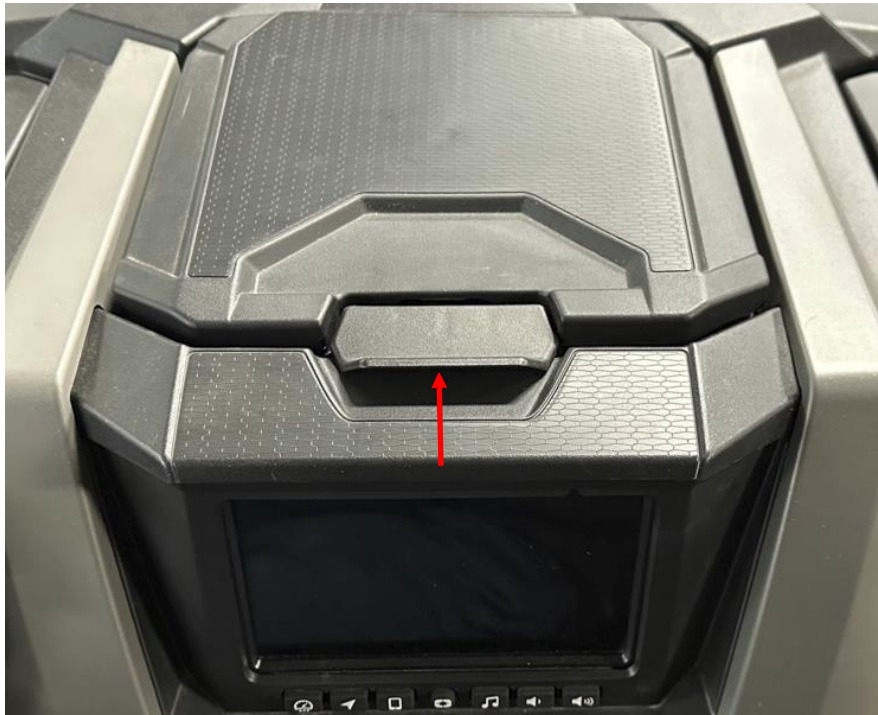

Figure 10: Open the center dash storage compartment.
11. Open the center dash storage compartment by lifting up on the tab. See Figure 10.